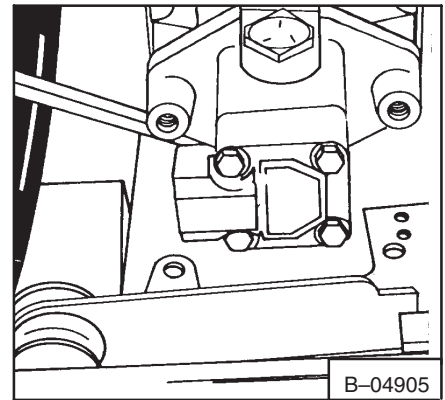

**Fig. 2-29** Removing Bolt
6. Remove the steering linkage and adjustment bolt (Fig. 2-29).